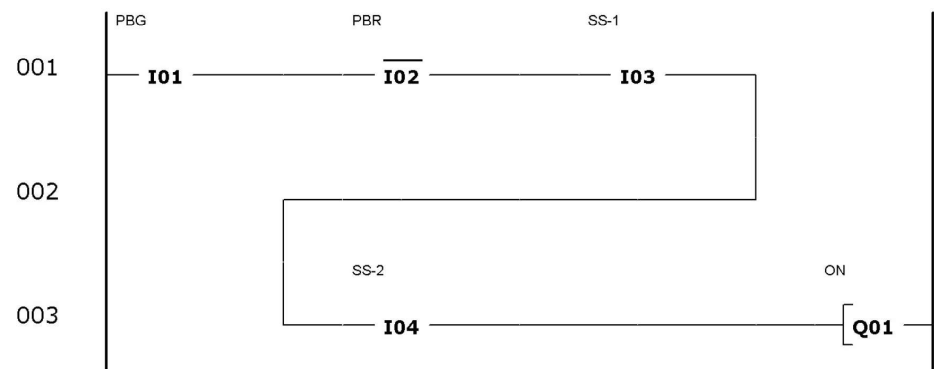

Figure 1-18. Do not use backwards wiring.
Because PLCs are limited in memory size, it is often necessary to circumvent those limitations by using some logic equivalents. The Programmable Logic Controller module, for instance, enables only three contacts per rung and does not permit backward wiring, which causes improper results. Figure 1-18 represents a series of four ANDed input contacts that is not implemented correctly.
- Enter and save the program shown in Figure 1-18.